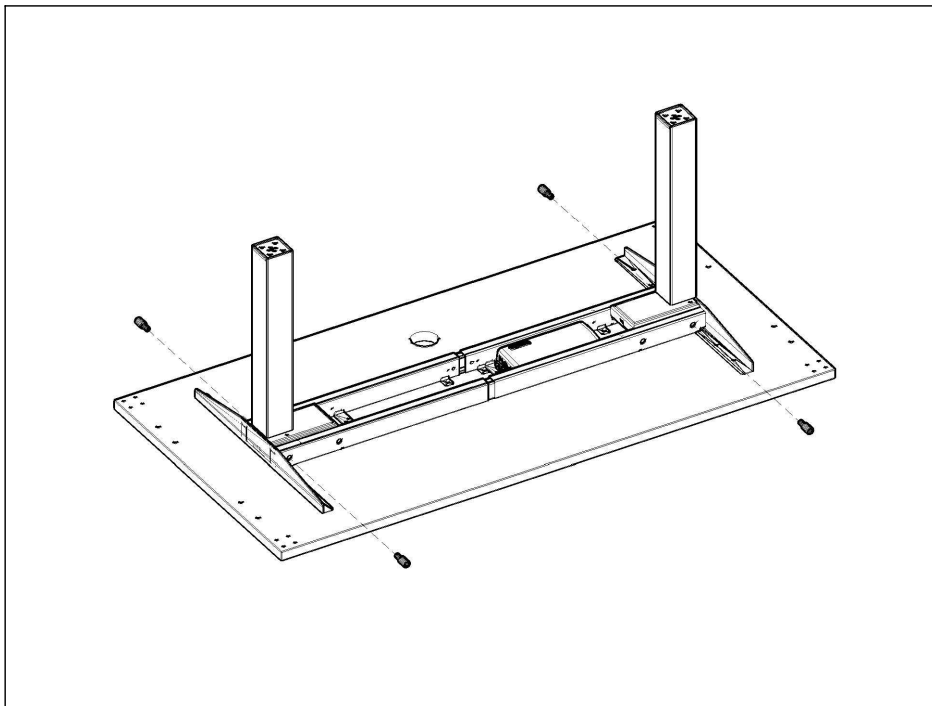

FIGURE 9
9. Install M6 x 15 machine screws using 5 mm allen wrench (Figure 9).